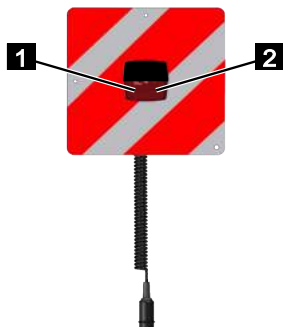

Fig. 263
- Feu stop 12V//21W (Fig.263/1)
- Feu de croisement 12V//10W (Fig.263/2)